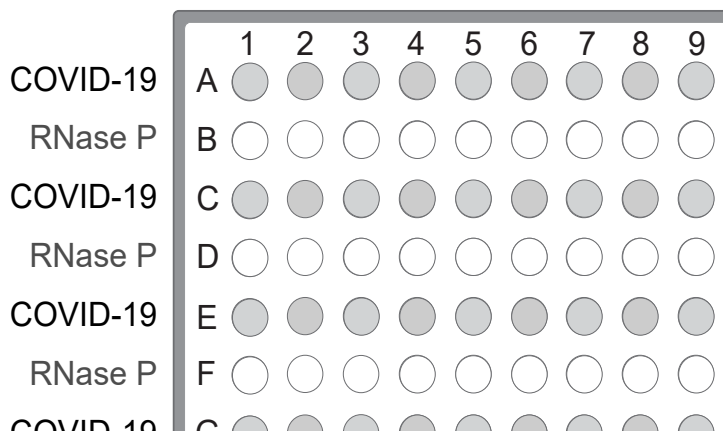

Figure 7 Assays in alternating plate rows
- a. Starting with row A, pipet 15.0 µL per well of the COVID-19 Reaction Mix into every other row of a MicroAmp™ Optical 384-Well Reaction Plate with Barcode. See Figure 7 on page 60.